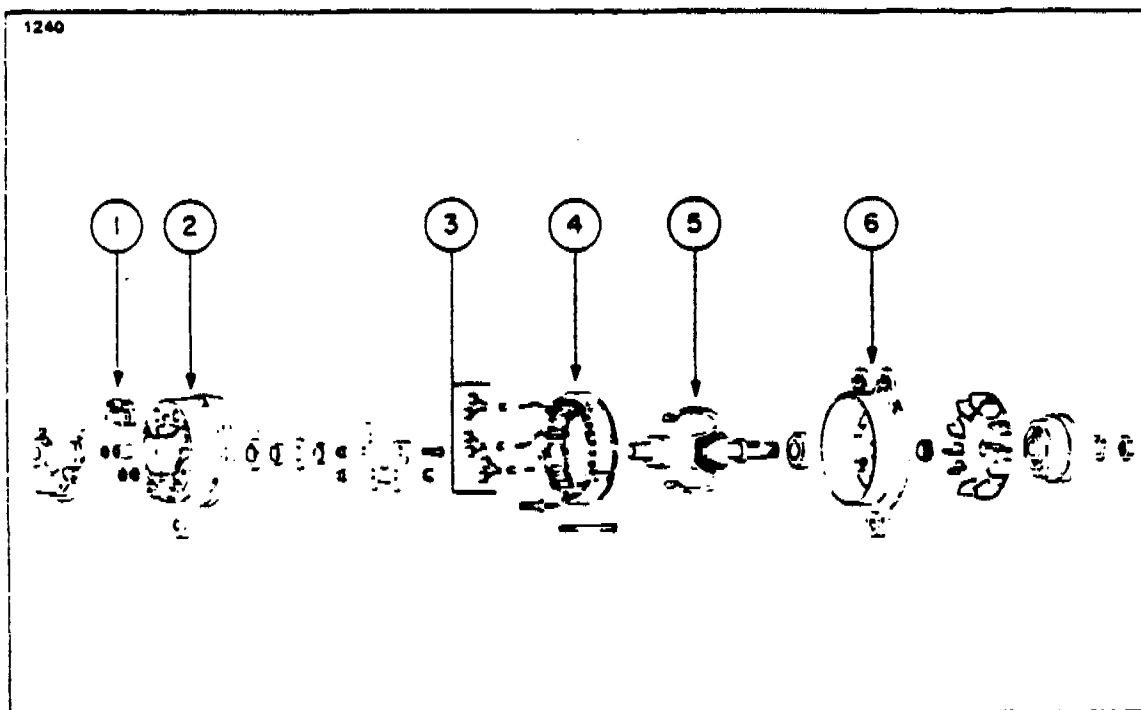

FIGURE 9-27a. EXPLODED VIEW OF ALTERNATOR
9-61b. Description Of Alternator. (Refer to Figure 9-27a.) The principal components of the alternator are the brush holder assembly (1), the slip ring end head (2), the rectifiers (3), the stator (4), the rotor (5) and the drive end head (6).